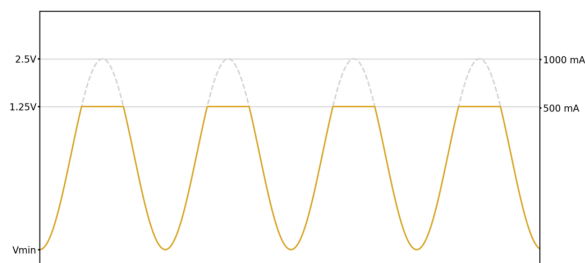

Figure 6.35: Cropped LED excitation signal
- **Custom** - this setting allows users to manually adjust the V_{max} and V_{min} of the LED, regardless of LED's maximum current. Care should be taken to remain below the maximum voltage, or the excitation signal will be cropped at the true maximum value (see Fig. 6.35).